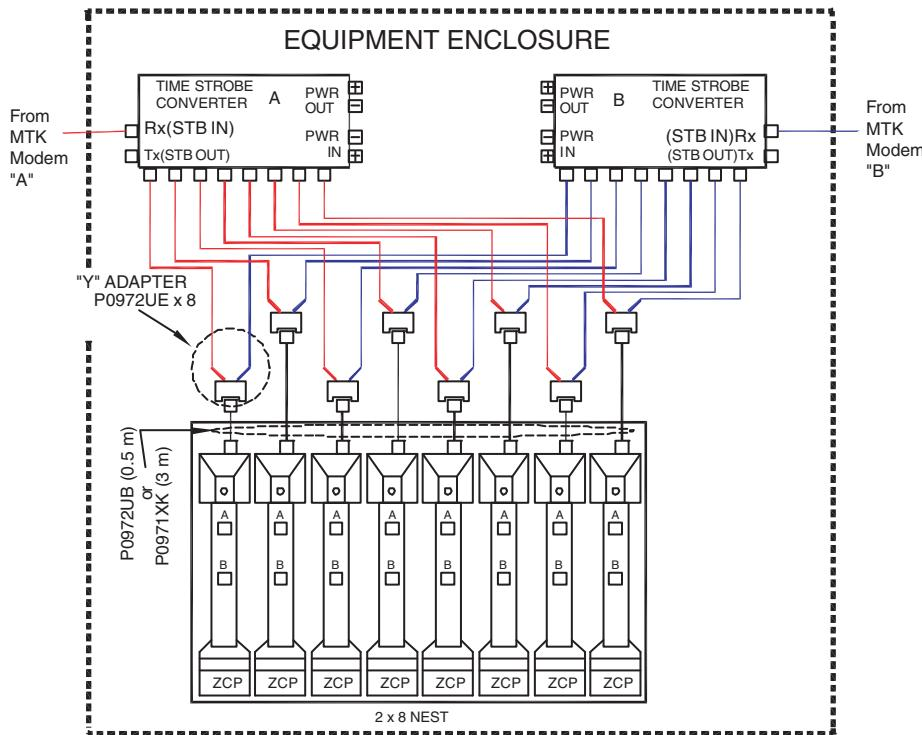

Figure 5-60. Redundant Time Strobe Cable Connections to ZCP270
4. Insert into J2 (RJ-45 connector) of the Y cable (P0972UE) the RJ-45 connector of cable P0972UB (0.5 m, 1.5 ft) or P0971XK (3 m, 10 ft) (see Figure 5-60).
5. Insert the RJ-45 connector of cable P0972UB (0.5 m, 1.5 ft) or P0971XK (3 m, 10 ft) (see Figure 5-60) into the ZCP connector.